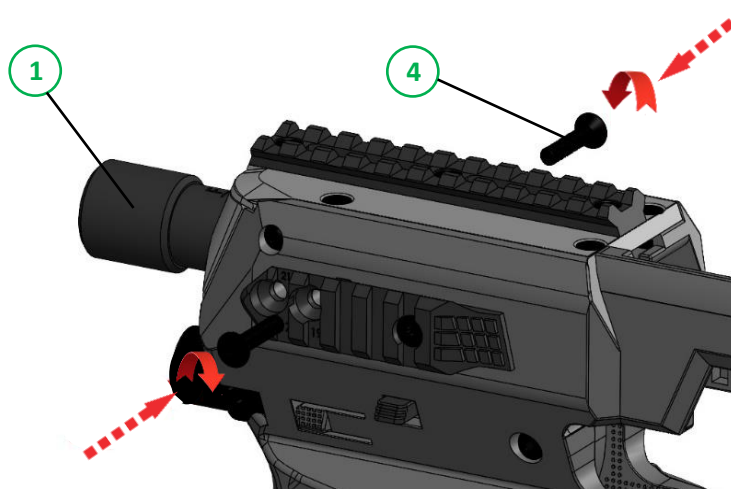

FIGURE 80
Make sure that the front aluminum tube (1) is at the right position (See **SECTION 3, STEP 1**) and then screw in the front aluminum tube screw (4) (x2) using a 3mm Allen wrench (FIGURE 80).